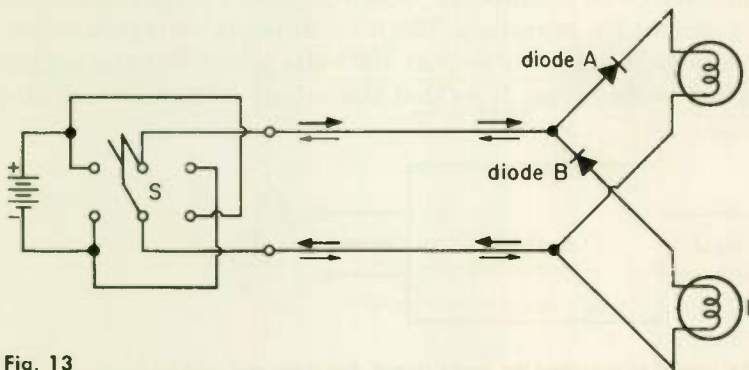

Fig. 13
1. Diodes are often used to “steer” currents so that they follow a desired path. Figure 13 shows a circuit in which two diodes are used so that two light bulbs can be lit independently of one another through one pair of wires. When the switch *S* is thrown to the left, current direction is as indicated by the (a) *(light) (heavy)* arrows. Diode (b) _____ conducts freely, and bulb (c) _____ lights. The other bulb does not light because the other diode has a (d) _____ resistance to current flow in this direction. When switch *S* is thrown to the right, the current direction is as indicated by the (e) *(light) (heavy)* arrows. Bulb (f) _____ lights and the other bulb (g) *(does) (does not)* light.